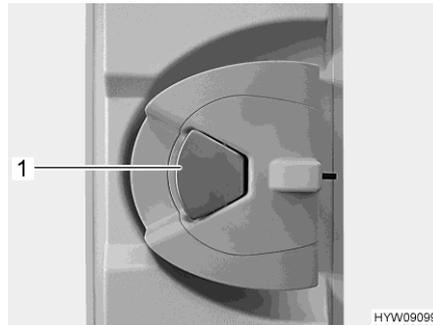

Fig. 51 Door lock (conversion door, inside)
- When the door lock is locked: Pull once at the door handle (Fig. 51,1). The door is unlocked.
- Pull on the door handle (Fig. 51,1). The door is open.
- Push the door handle (Fig. 51,1).